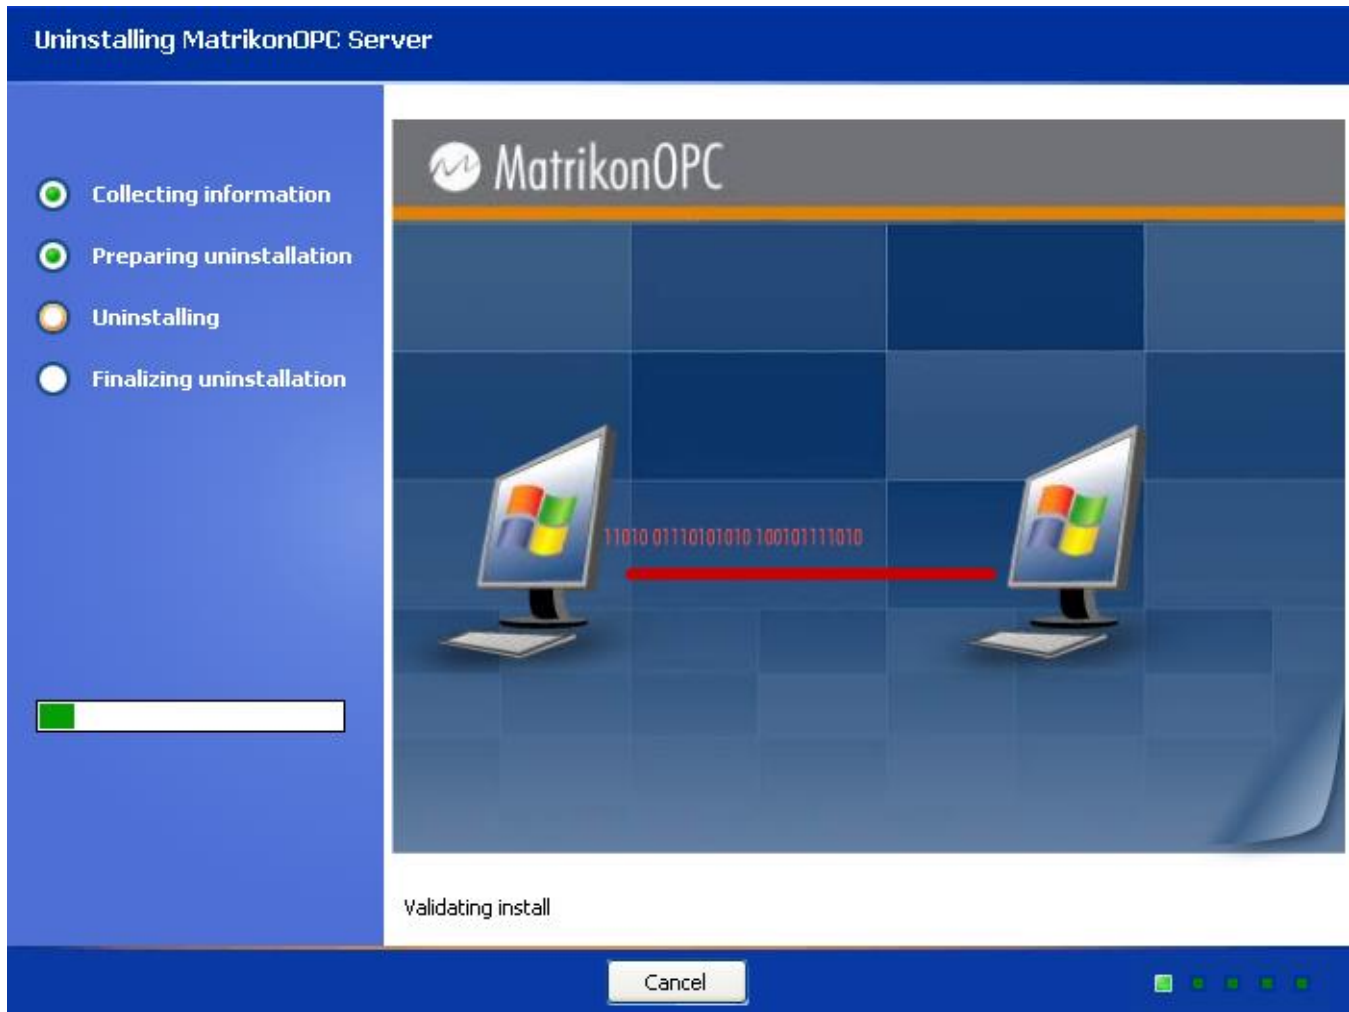

Figure 80 - Uninstalling MatrikonOPC Server for IEC 61850/61400-25 Screen
10. The **Uninstalling MatrikonOPC Server for IEC 61850/61400-25** screen (Figure 80) appears and the un-install takes place.